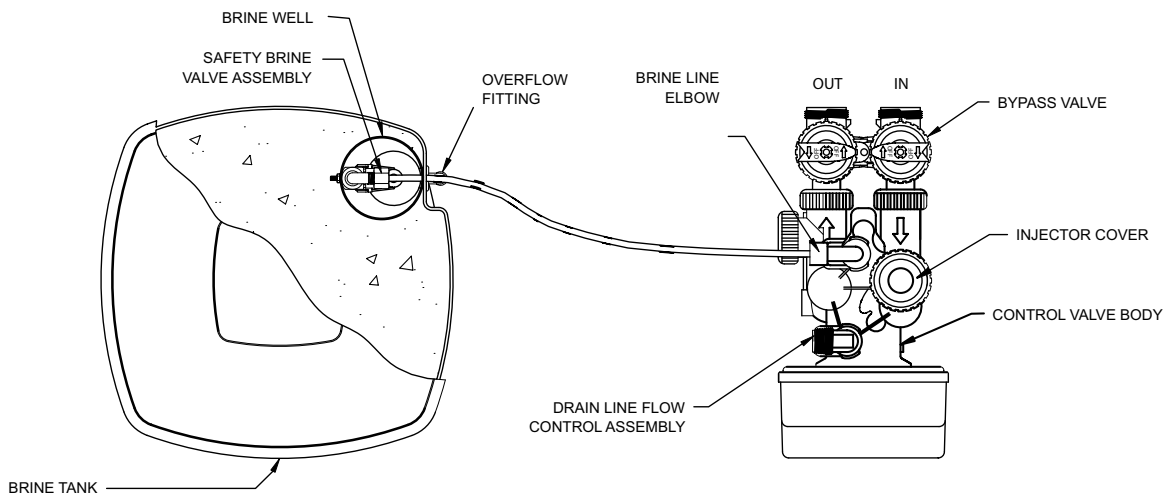

Figure 2. SOFTENER AND BRINE TANK ASSEMBLY, TOP VIEW
Step 10. Install OVERFLOW LINE to brine tank OVERFLOW FITTING (Figure 2). Discharge of line must be lower than OVERFLOW FITTING. **DO NOT INTERCONNECT OVERFLOW LINE WITH VALVE DRAIN LINE.**